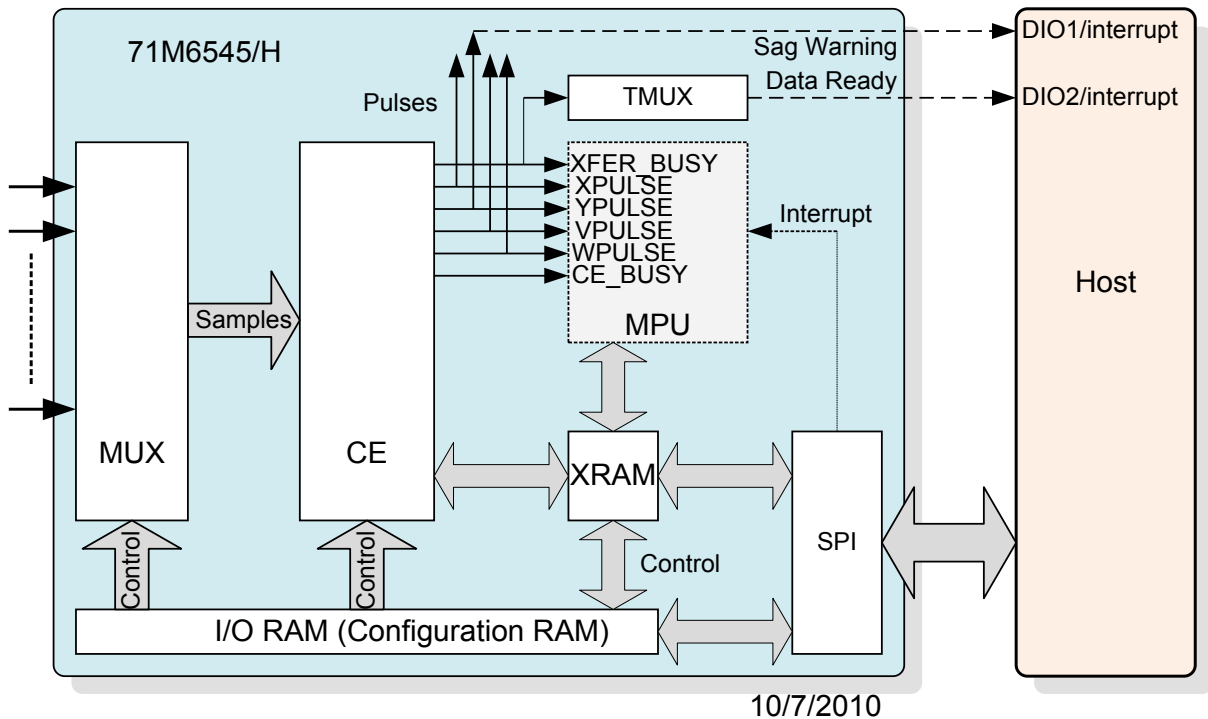

Figure 22: Data Flow
The data flow between the Compute Engine (CE) and the host is shown in Figure 22. In a typical application, the 32-bit CE sequentially processes the samples from the voltage inputs on pins IADC0-IADC1, VADC8 (VA), IADC2-IADC3, etc., performing calculations to measure active power (Wh), reactive power (VARh), A^2h , and V^2h for four-quadrant metering. These measurements are then accessed by the host via the SPI interface, processed further and stored and/or displayed. For example, to obtain the RMS current value in phase A, the host reads the *IOSQSUM_X* register of the CE, scales it with VMAX, IMAX, and the LSB, as given in the CE Interface description (see 5.4 CE Interface Description on page 100), and then performs a square-root operation. Similarly, momentary real power and reactive power available via the *WSUM_X* and *VARSUM_X* registers only have to be scaled by the host, while the apparent power has to be post-processed as follows:
Figure 22 illustrates the CE-to-host data flow.